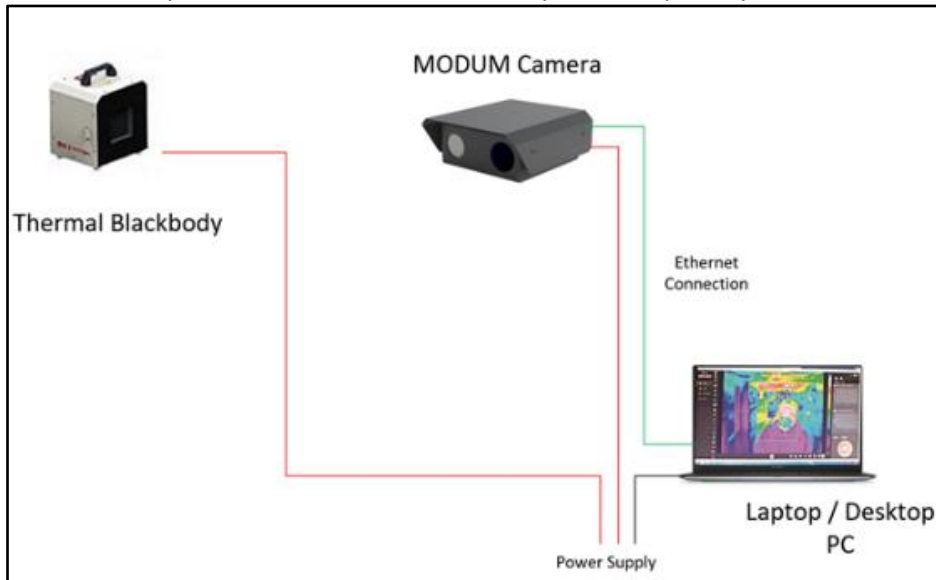

Figure 1 ETS System Architecture
Figure 1 shows the system architecture/ connectivity of the capability.
- MODUM is connected to the laptop via Ethernet cable, as shown in Figure 1.